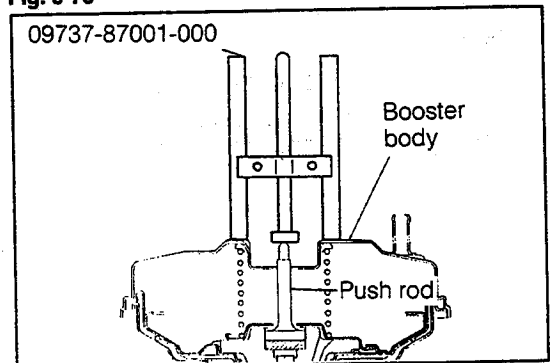

Fig. 8-74
- (2) Set the SST as indicated in Fig. 8-74. Adjust the push rod so that the push rod clearance may become zero.